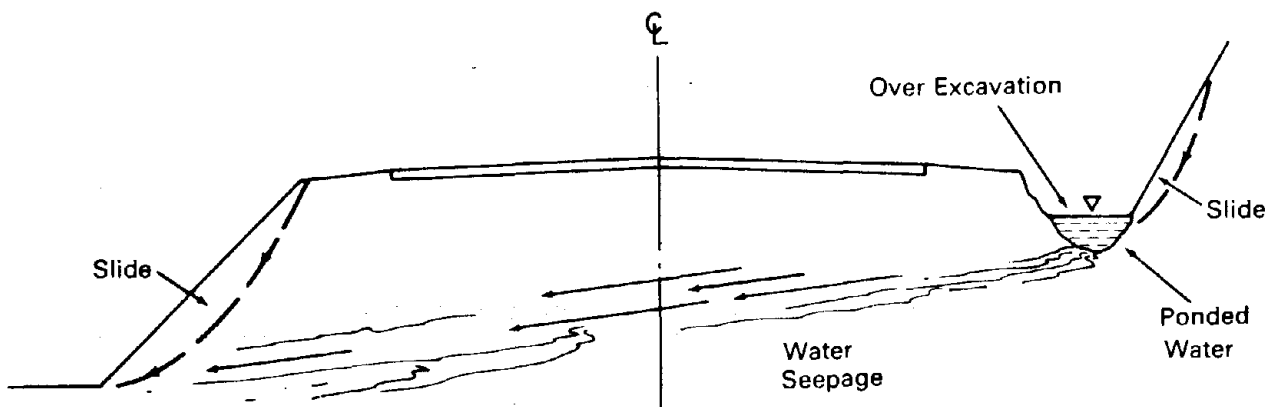

Figure 9. Over-excavation of ditch.
- a. Do not over-excavate ditches (figure 9).